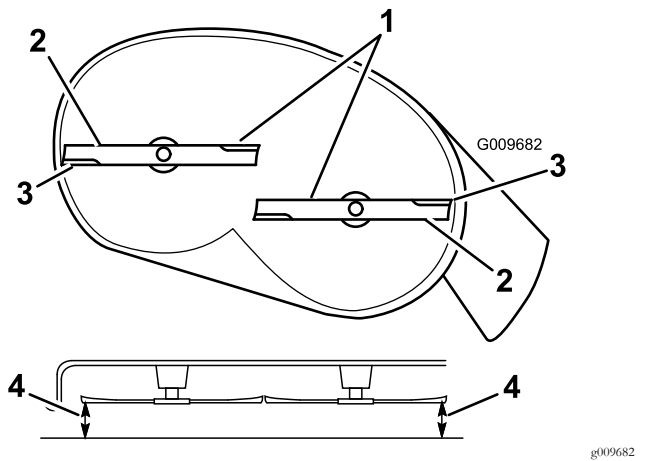
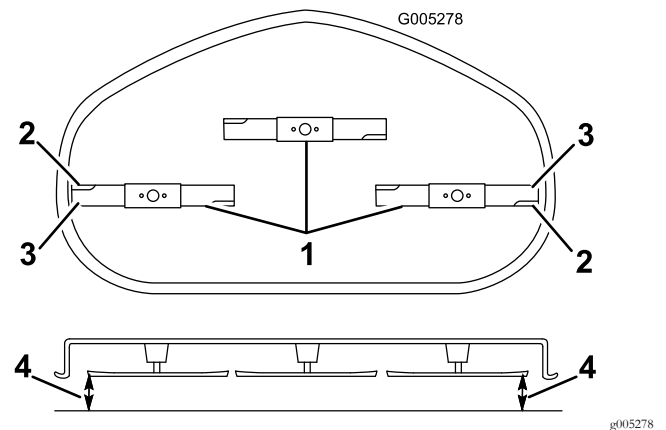

Figure 62
Figure 63
4. Carefully rotate the blades so that they are all side to side (Figure 62 and Figure 63).
5. Measure between the outside cutting edges and the flat surface (Figure 62 and Figure 63).